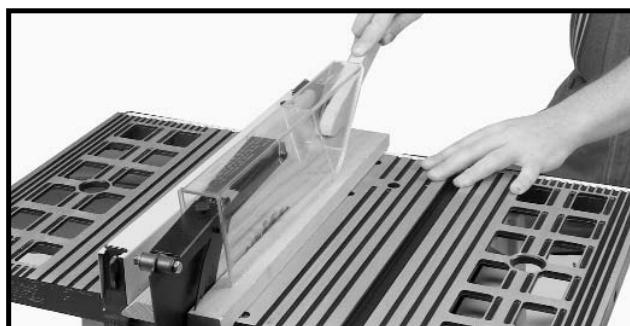

Fig. 41
2. If the ripped work is less than 4 inches wide, a push stick should always be used to complete the feed, as shown in Fig. 41. The push stick can easily be made from scrap material as explained in the section **"CONSTRUCTING A PUSH STICK."**